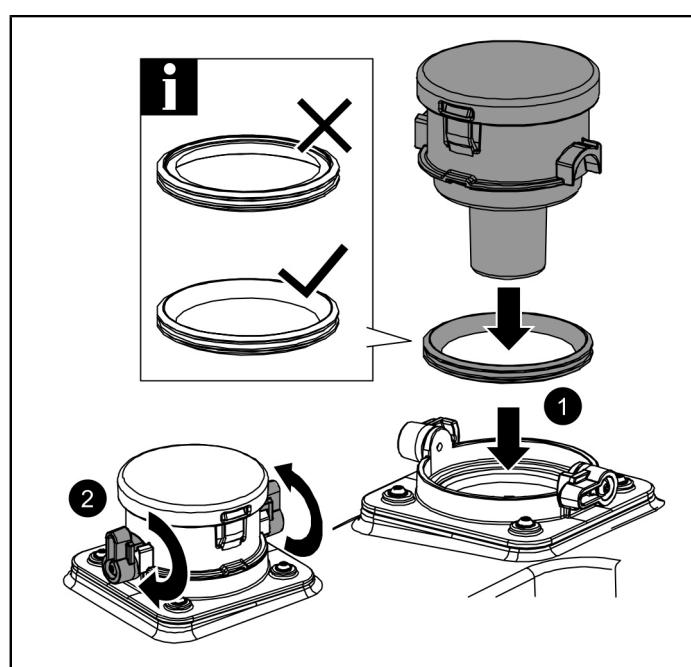

Abb. 6: e
- Unscrew the four screws from the blind plug and remove the ventilation socket OD 70 ①.
- Assemble and insert the activated carbon filter. Tighten the locking levers (2x) ②.
- Info:** Make sure that the seal between the accessories and the drain body fits properly (see Fig 6 e).
- Use the four screws to fix the activated carbon filter OD 70 ③.